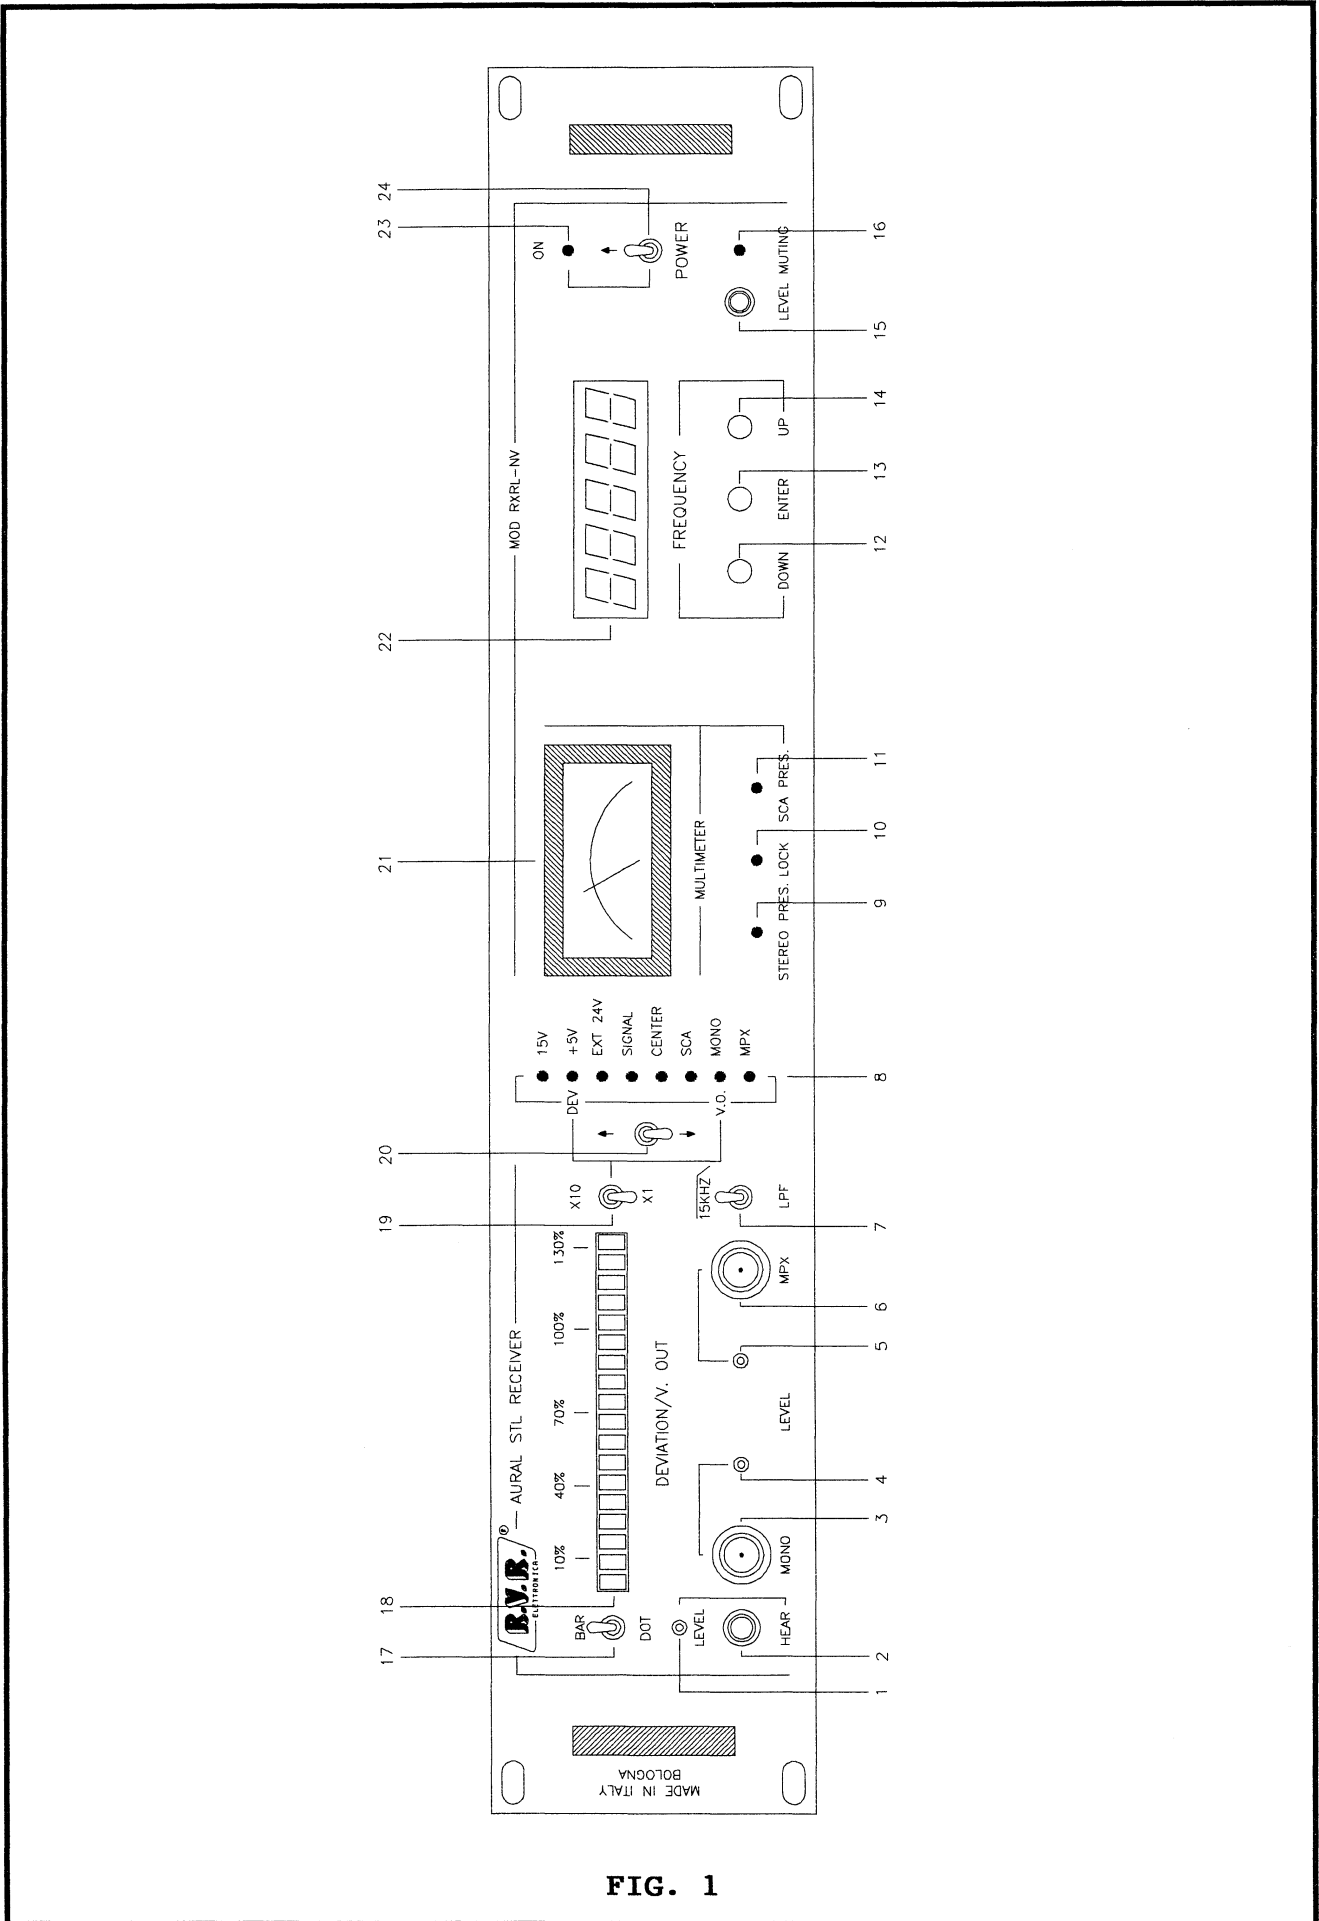

FIG. 1
The parameters are selected by a lever switch (20 Fig.1) and the selection is indicated by the legend of the green led (8 Fig.1).
This card is mounted on the right side of the front panel and allows adjustment of the receiver's muting threshold (= -83 dBm of default) and displays the muting status with a led (16 Fig.1).
FRONT PANEL VIEW DESCRIPTION (Fig. 1)
- 3) Switch the power switch (24 Fig.1) to the OFF position.
- 5) Switch the power switch to the ON position and check that the green POWER ON led (23 Fig.1), and the green led corresponding to the parameter selection SIGNAL (8 Fig.1), are both lit.
After a few seconds the frequency display (22 Fig.1) will come on and display a number (eg. 108.00) corresponding to the last operating frequency to have been programmed.
that the oscillator has locked to the operating frequency displayed. The display has five digits, 3 before the decimal point representing (from left to right) hundreds of MHz, tens of MHz and Mhz; and 2 after the decimal point representing hundreds and tens of KHz. To change this number, use the UP (14 Fig.1) and DOWN (12 Fig.1) buttons to respectively increase it and decrease it.
Once the desired frequency has been found, press ENTER (13 Fig.1) to confirm and save it.
- 6) Connect an audio analyzer to the MONO (3 Fig.1) or MPX outputs (6 Fig.1).
Modulate the carrier with a 400Hz tone at a deviation of ±75KHz. Check that the analog meter (21 Fig.1) displays a reading of 1mV.
- 7) Select CENTER with the selector (20 Fig.1) and check that the received signal is centered.
Set the modulation display gain (20 Fig.1) to 130% f.s.d.
Connect an audio analyzer to the MONO output (3 Fig.1).
Check that the bar-graph display (18 Fig.1) lights up to the first red led, indicating 100% deviation (equivalent to 75 KHz).
- 9) Inject a signal with a level of -83 dBm and adjust the MUTING trimmer R2 (15 Fig.1) until the red muting led switches on. The audio signal will be automatically disabled and the Modmeter bar-graph display will go out.